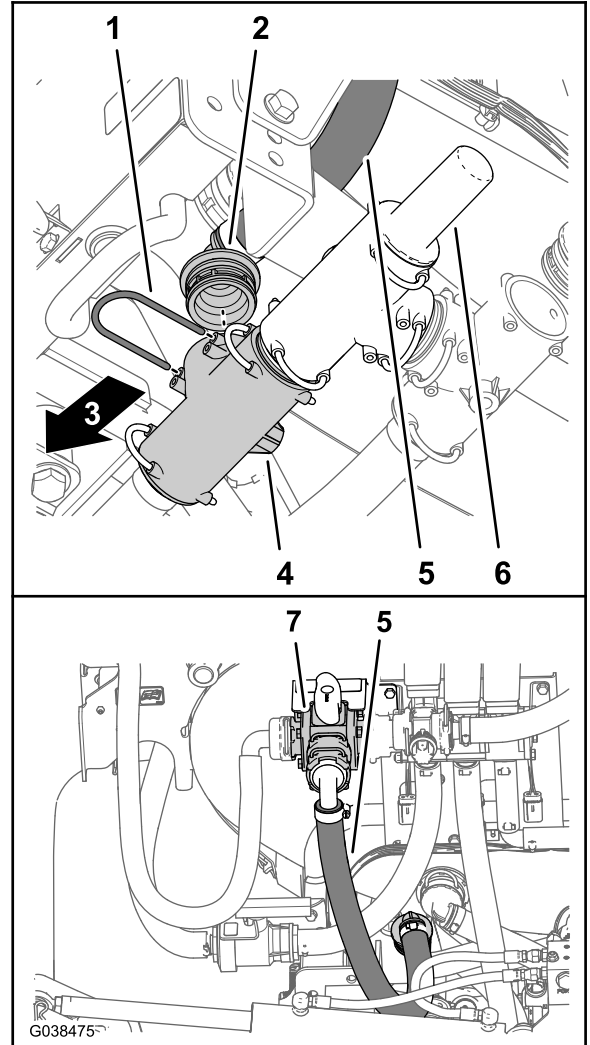

Figure 11
3. Remove the retainer that secures the 90° barbed fitting of the sprayer supply hose to the T-fitting located forward of the pressure-relief valve (Figure 11).
4. Remove the 90° barbed fitting from the T-fitting (Figure 11).